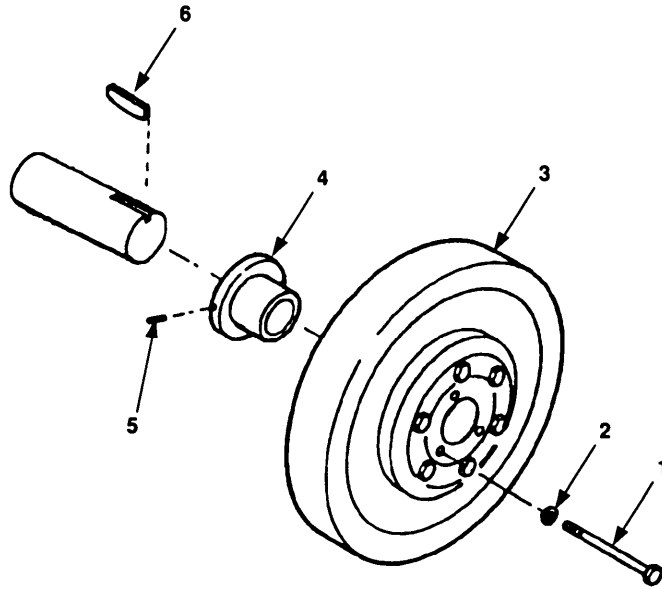

Figure 5-13. Taper Lock Hub Coupling Maintenance.
- c. Remove three screws (figure 5-13, 1) and lockwashers (2) from mounting holes.
- d. Thread two 3 1/2 inch screws into mounting holes where screws (1) were removed.
- e. Tighten screws until flexible coupling (3) is evenly pressed off bushing (4). Remove screws.
- f. Remove flexible coupling (3).
- g. Loosen set screw (5) and remove taper bushing (4) from shaft.
- a. Install bushing (4) to measurement recorded in step b of paragraph 5.6.3.1.
- b. Tap key (6) until it is even with set screw (5), then tighten.
- c. Align flexible coupling (3) on taper bushing (4) with holes in flange end.
- d. Install lockwashers (2) and screws (1). Evenly tighten screws to secure flexible coupling (3) to taper bushing (4).